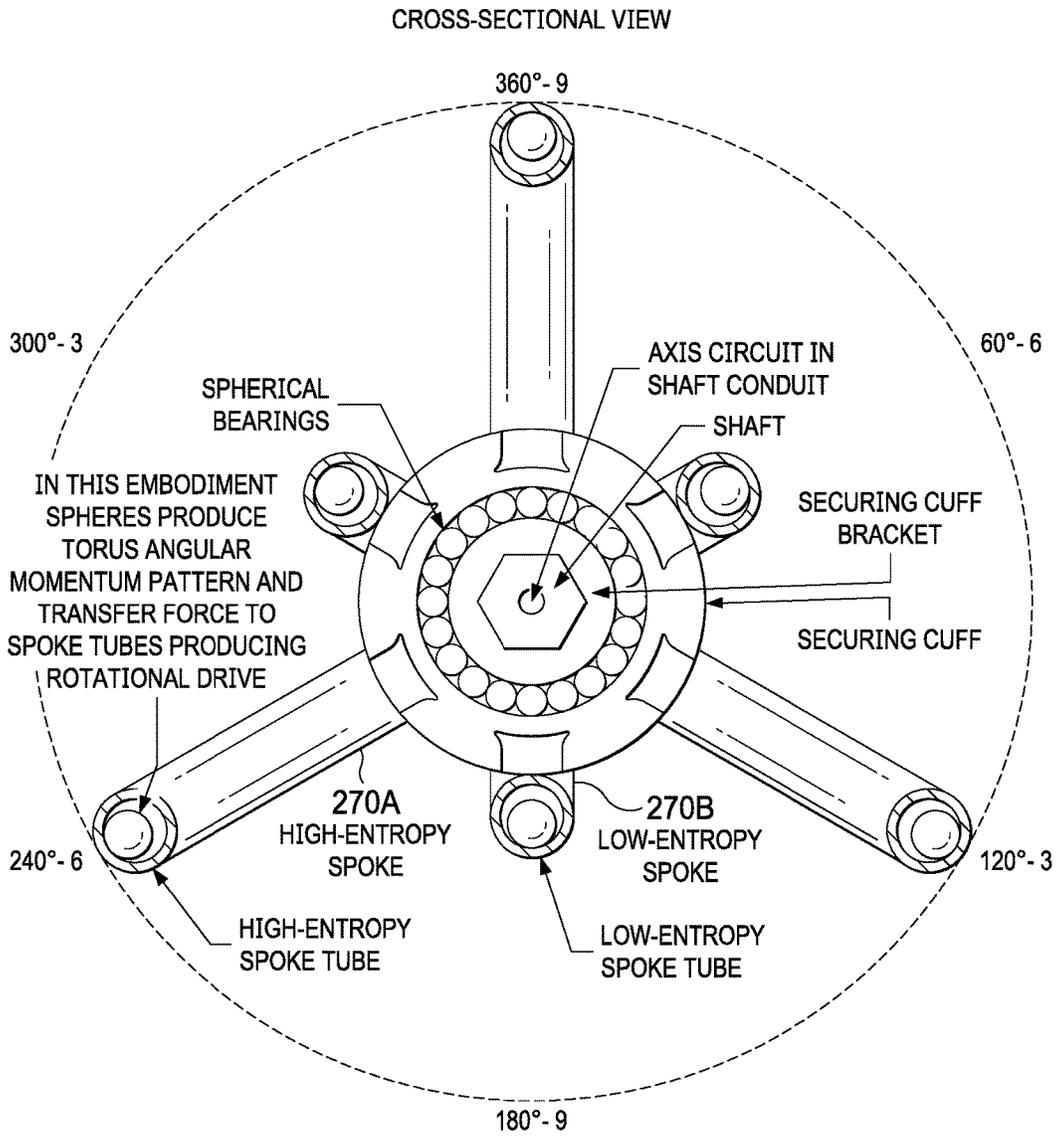

FIG. 7
**[0015]** FIG. 7 shows a cross-sectional view of the InfinityScrew;